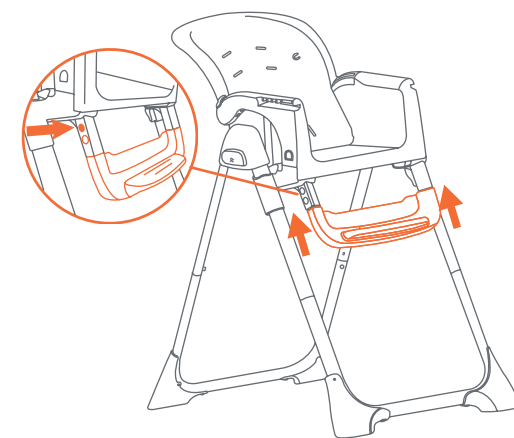

Fig. 6
- 6) • Slide the Footrest into the Height Bracket (Fig. 6). Lock Footrest into place.
NOTE: Adjust the height of the footrest by squeezing both tabs simultaneously and lift up (Fig. 6).